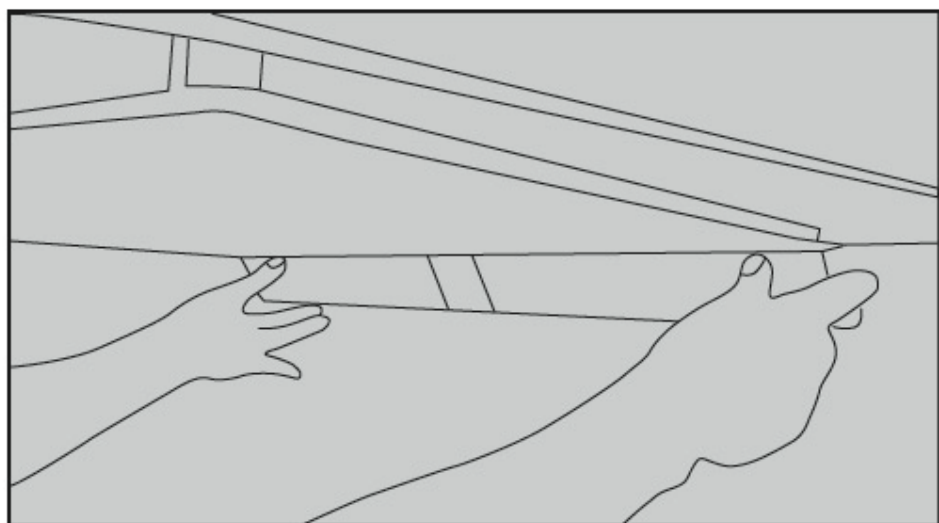

Fig.1
1. Hold both ends of the oil cup with both hands and keep the oil cup horizontal before removing it from the front the range hood. Take the oil cup down and empty the remaining oil (see Figure 1).